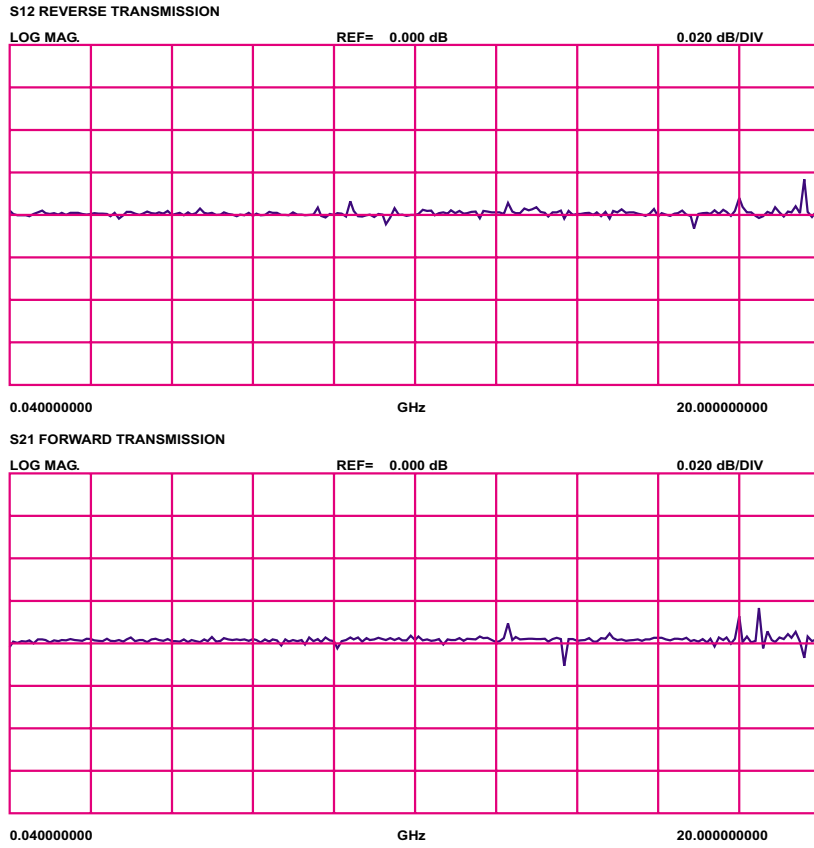

Figure 11-4. High Level Noise Test Waveform
- Step 10.** Verify that the peak-to-peak High Level Noise falls within the area between the two limit lines (Figure 11-4, following page).